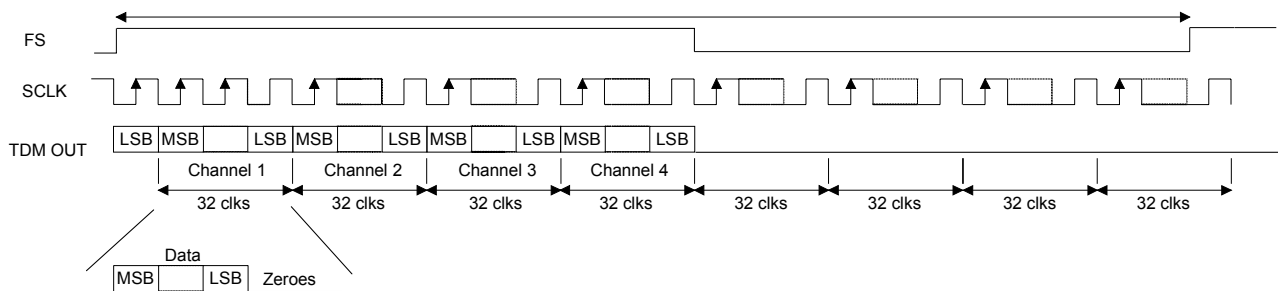

Figure 12. TDM Format
In TDM Mode, all four channels of audio data are serially clocked out during a single Frame Sync (FS) cycle, as shown in Figure 12. The rising edge of FS signifies the start of a new TDM frame cycle. Each channel slot occupies 32 SCLK cycles, with the data left justified and with MSB first. TDM output data should be latched on the rising edge of SCLK within time specified under ‘Serial Audio Interface - TDM Timing’ section on page 16. The TDM data output port resides on the SDOOUT1 pin. The TDM output pin is complimentary TDM data. All SDOOUT pins will remain active during TDM Mode. Refer to Section 4.11 ‘Optimizing Performance in TDM Mode’ on page 29 for critical system design information.